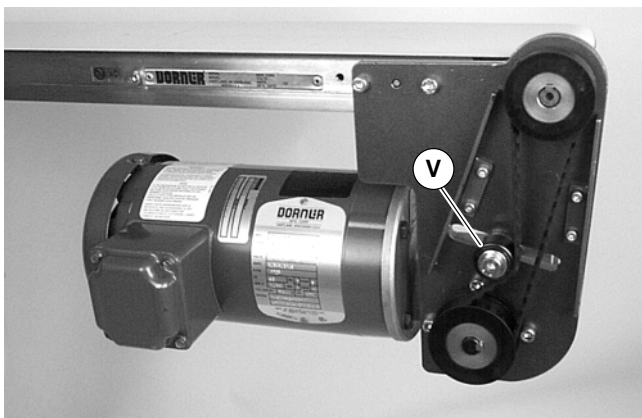

Figure 12
2. Loosen tensioner (V of Figure 12).